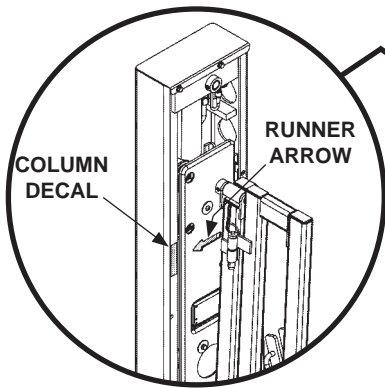
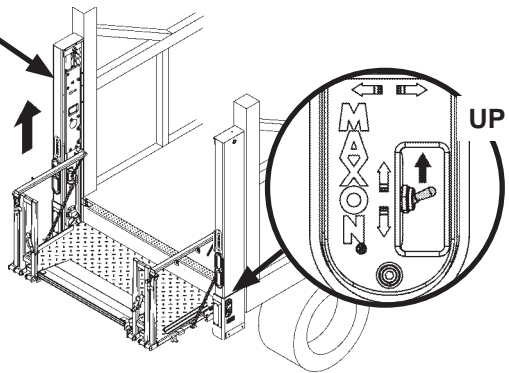

FIG. 28-1B
FIG. 28-1A
1. Use the column switch to raise (**UP**) platform (**FIG. 28-1A**) until runner arrow and column decal on LH column are aligned (**FIG. 28-1B**).